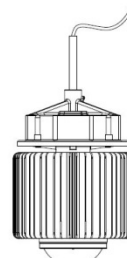

Fig 2
**PENDANT MOUNT (Fig 2)**
**PENDENT MOUNT (Fig 2)**